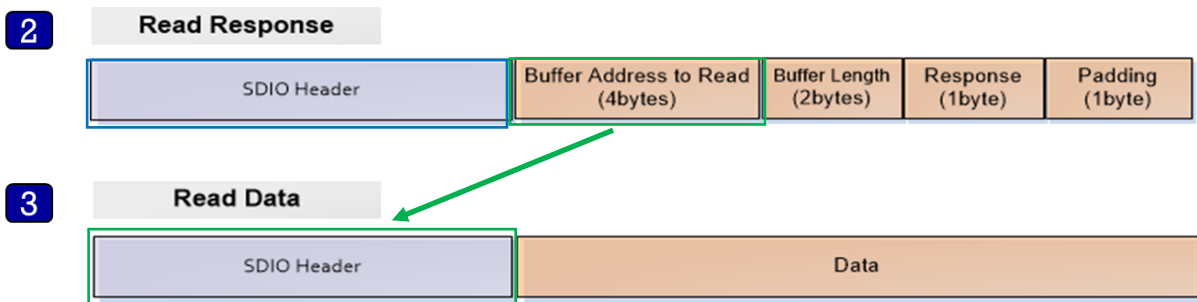

Figure 5: Structure
2. The Host reads the response message from "Response Command" address (0x50080258, blue rectangle in Figure 5), and parse it using "struct _st_host_response". (see Table 4).
3. The Host reads data from address (BUFF_ADDR) which is received from Slave in the response message. (Green rectangle in Figure 5)